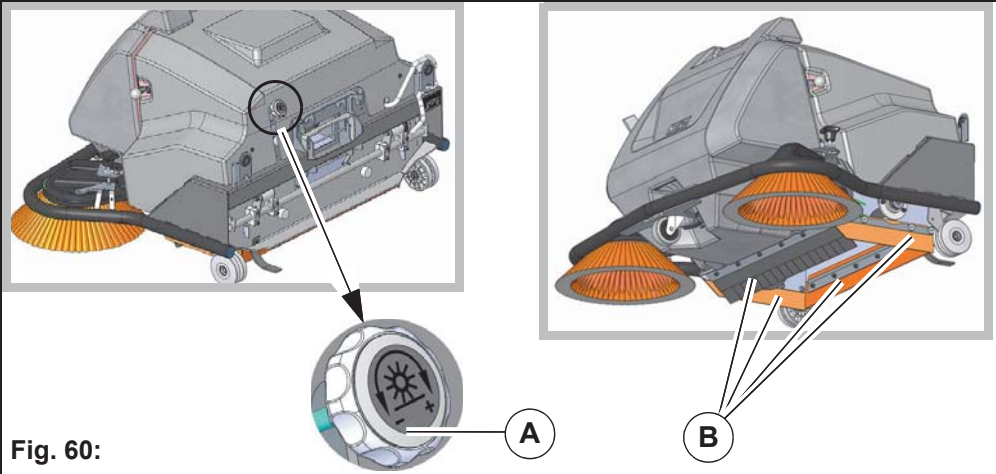

Fig. 60:
2. Rotate the adjustment dial **Fig. 60-A** until the cylindrical brush is touching the floor.
The sealing strips must be in perfect condition for the pre-sweep suction unit to operate efficiently. Inspect the sealing strip of the cylindrical brush compartment **Fig. 60-B** for wear and check for damage at regular intervals.